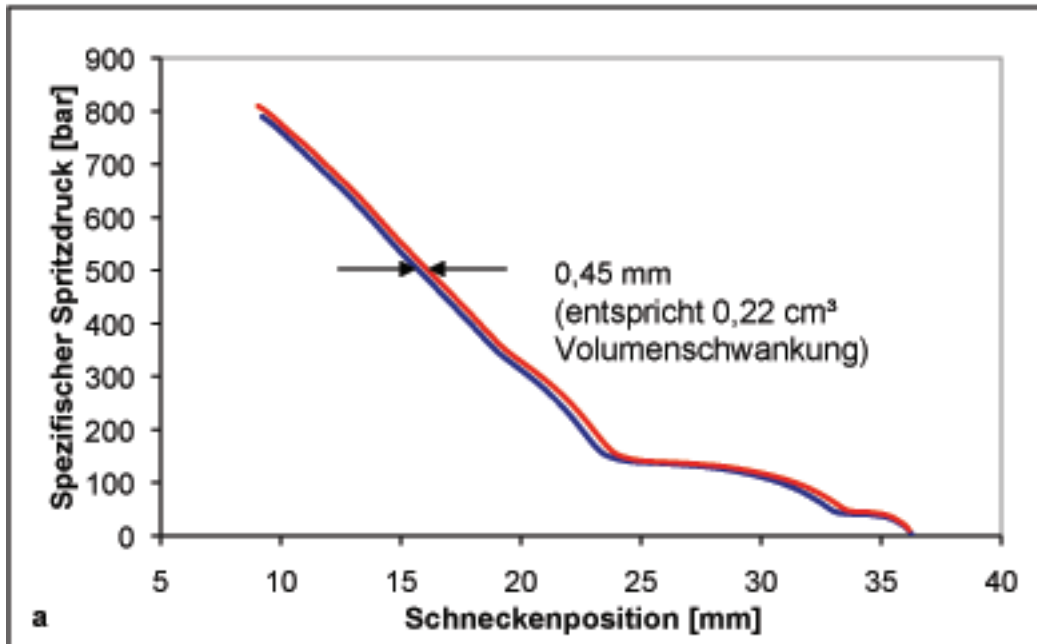

Figure 2A
Finally, whether variations in the quantity of melt are caused by continuing polymer flow or by leakage losses during the closing of the non-return valve, the effect is the same in both cases: during injection the curve of specific injection pressure is shifted (**Figure 2A**). The different filling levels lead to different pressure values at the switchover point.
- a shift of the pressure curve in the x-direction (**Figure 2A**),